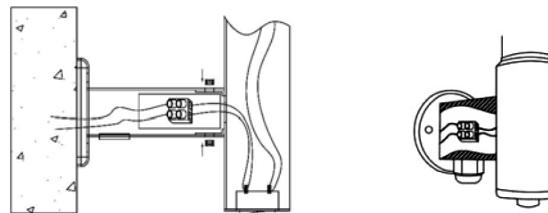

**Figure. 3**
4. Place the bracket washers between the wall brackets and the wall to avoid water leakage (see figure 3)